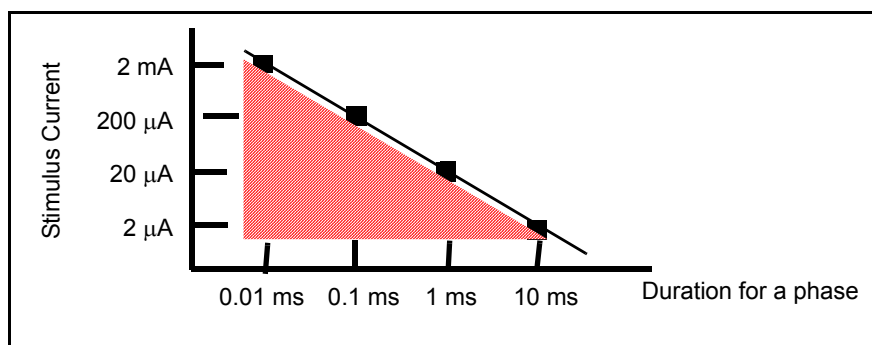

Fig.8. Suggested stimulation parameters.
- DO NOT use combinations of stimulus current & duration outside the shaded area in the Fig.8. Higher values might damage the electrodes.